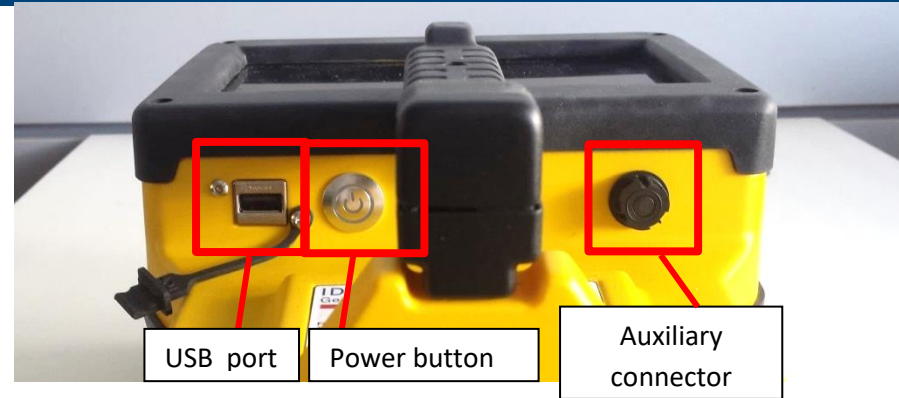

Fig. 4 – Detail of the USB port, Power button and remote-control connector interfaces.
- USB port for radar data transfer, software and firmware updating, Fig. 4.
- Power button to switch on/off the system, Fig. 4.
- Auxiliary connector, Fig. 4.